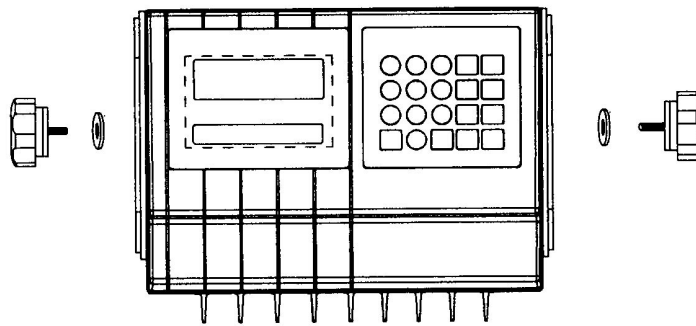

Figure 3
5. Attach the two knobs, P/N (*)13300100A supplied with kit, and washers, P/N (*)13256400A supplied with kit, through the semi-circular swivel cutouts in the mounting bracket and screw into the threaded holes in the swivel plates. Refer to Figure 3.